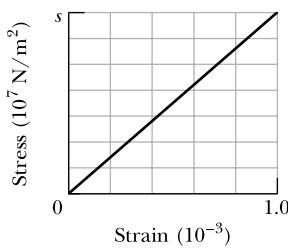

Figure 12.45 Problem 48.
- 48 M CALC** Figure 12.45 shows the stress versus strain plot for an aluminum wire that is stretched by a machine pulling in opposite directions at the two ends of the wire. The scale of the stress axis is set by  $s = 7.0$ , in units of  $10^7 \text{ N/m}^2$ . The wire has an initial length of  $0.800$  m and an initial cross-sectional area of  $2.00 \times 10^{-6} \text{ m}^2$ . How much work does the force from the machine do on the wire to produce a strain of  $1.00 \times 10^{-3}$ ?